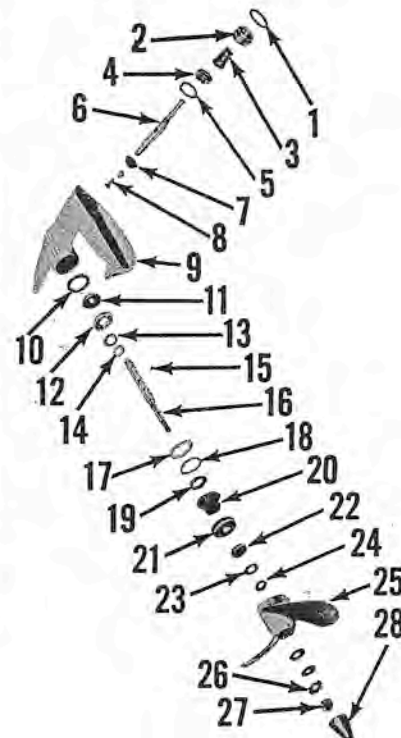

Fig. M20—Exploded view of lower unit gearcase and associated parts.
If clutch tension must be increased, straighten the tabs on the propeller nut locking washer (26—Fig. M20) and tighten the propeller nut until the proper torque is applied. If propeller nut bottoms on shaft, remove the nut and place a shim behind the compression spring (27). Shims are available in thicknesses of 0.015 and 0.031. An inoperative clutch can be cleaned or the parts renewed by removing the propeller after tension nut is off. Clutch contains 8 externally splined friction discs (23) and 8 internally splined discs (24) which must be alternated on shaft. Motors are equipped with a 6 3/4 inch diameter, 7 inch pitch, 2 blade aluminum propeller.
(21—Fig. M20) using Mercury tool 91-24267 or a suitable spanner wrench. NOTE: Gearcase cover is secured with left-hand thread.